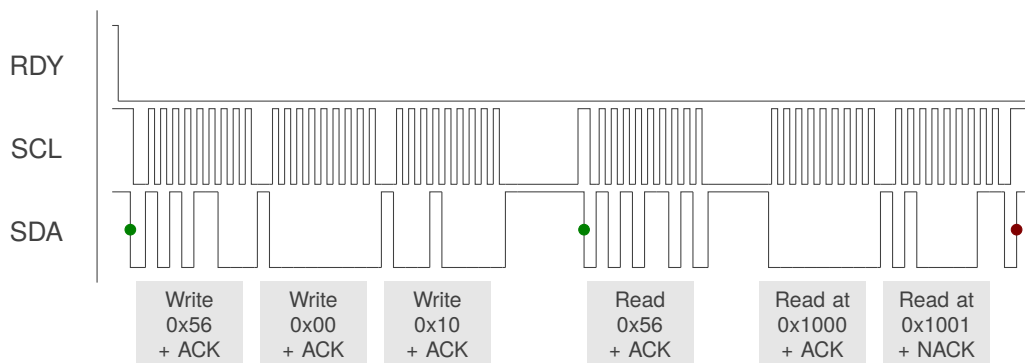

Figure 10.1: I2C Read Example — Read System Control Registers 0x1000 and 0x1001
A typical read operation is displayed in Figure 10.1. The master device waits for the RDY line of the IQS396 to go low, indicating the availability of new data and an available communication window. Once the RDY interrupt is triggered, the master initiates communication by sending a start condition followed by the device address and a write command. The IQS396 responds with an acknowledgement, after which the master device will transmit two bytes defining the register address. The master then sends a repeated start condition, followed by the device address with a read command. The IQS396 transmits data from the requested address and will continue to do so while the master acknowledges each byte. The read operation is ended when the master does not acknowledge the last byte received and produces a stop condition.
- > Read the *System Control* Registers (0x1000 and 0x1001) as illustrated in Figure 10.1.
With the *Terminate Comms Window* setting enabled in the *Power Settings* register, a standard I2C STOP ends the current communication window. If multiple I2C transactions need to be done, then they should be strung together using repeated-start conditions instead of giving a STOP. Allowing an I2C STOP to terminate the communication window is the recommended method, as illustrated in Figures 10.1 and 10.2.